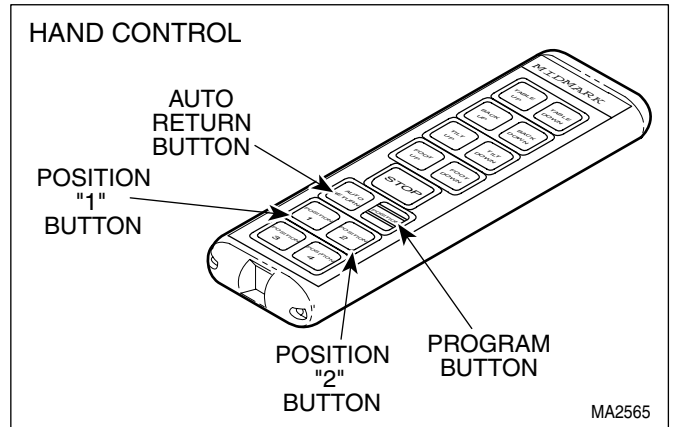

Figure 4-1. Reinitialization Procedure
- (1) Simultaneously depress and hold the PROGRAM, POSITION "1", and POSITION "2" buttons for at least two seconds; then release buttons. See Figure 4-1.